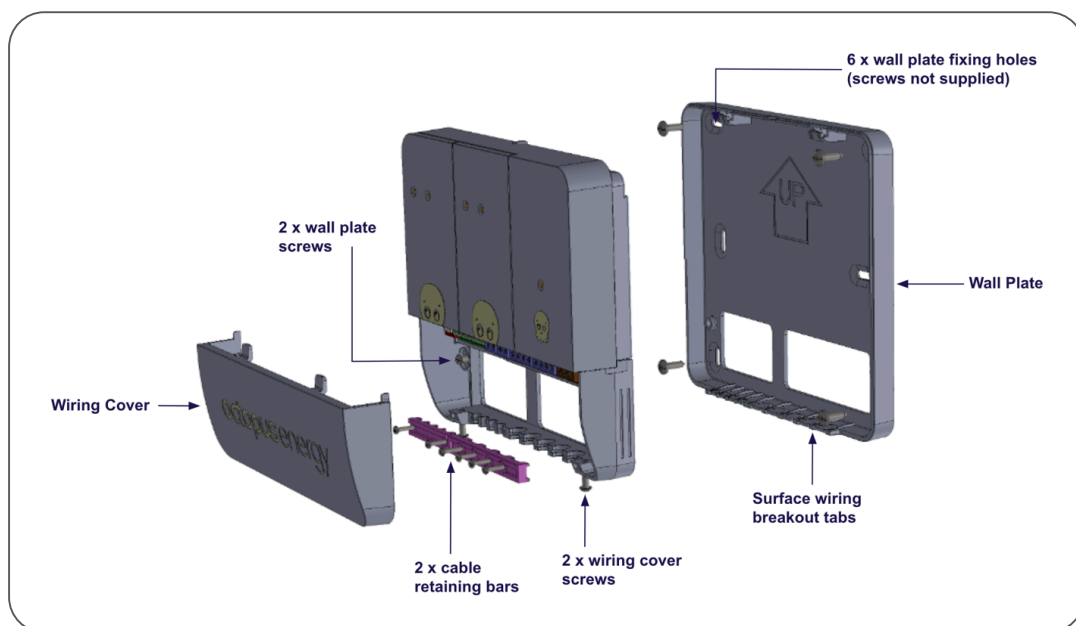

Figure 10.2 - Cosy Hub Mounting
3. Affix the wall plate to the wall with the arrow pointing upwards. See *Figure 10.2*
Once the Cosy Hub is mounted to a wall, proceed with wiring as detailed below. Wiring can be done either through the surface wiring breakout tabs or through the holes in the wall plate as seen in Figure 10.2 above.